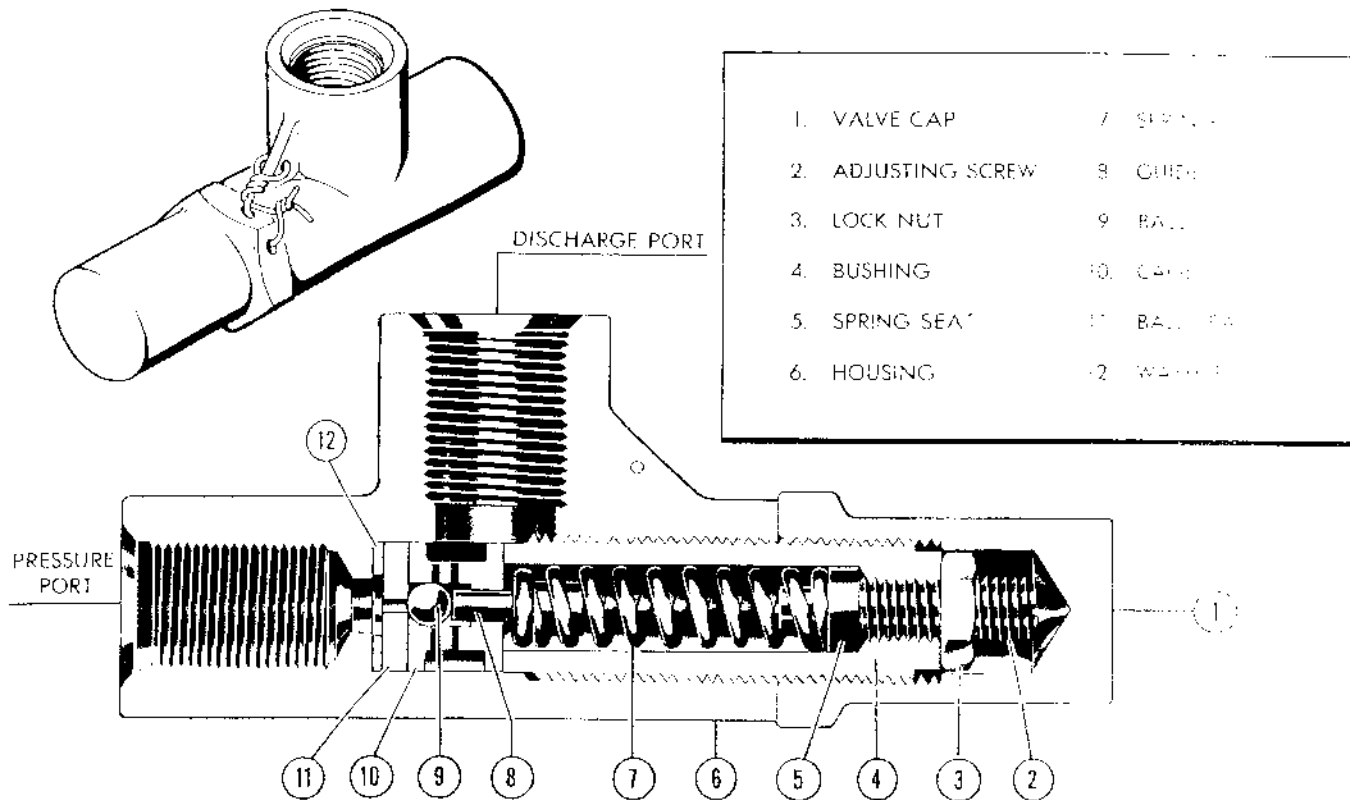

Figure 165 — Thermal Relief Valve
(8) THERMAL RELIEF VALVE. (See figure 165.)—A thermal relief valve is connected to the emergency system pressure line to protect it from excessive pressure induced by thermal expansion of the fluid. Fluid under pressure of 1225 (± 25) psi or more is bypassed to the hand-pump suction line. The valve is adjusted by removing the cap and turning the adjusting screw clockwise to increase the pressure setting or counterclockwise to decrease the pressure setting.